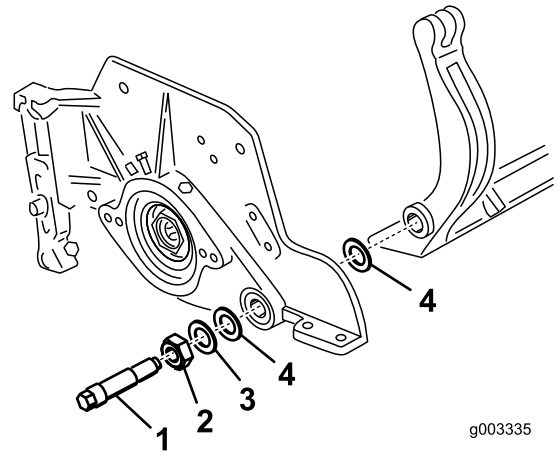
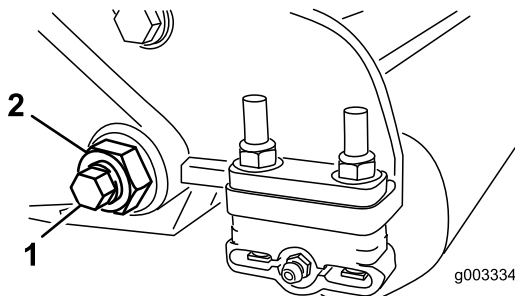

Figure 36
Figure 35
3. On each side of the machine, loosen the lock nut securing the bedbar bolt (Figure 35).
4. Remove each bedbar bolt allowing bedbar to be pulled downward and removed from machine bolt (Figure 35). Account for 2 nylon and 1 stamped steel washers on each end of bedbar (Figure 36).
Note: A nylon washer is to be positioned on each side of side plate boss. Place a steel washer outside each of the nylon washers (Figure 36).